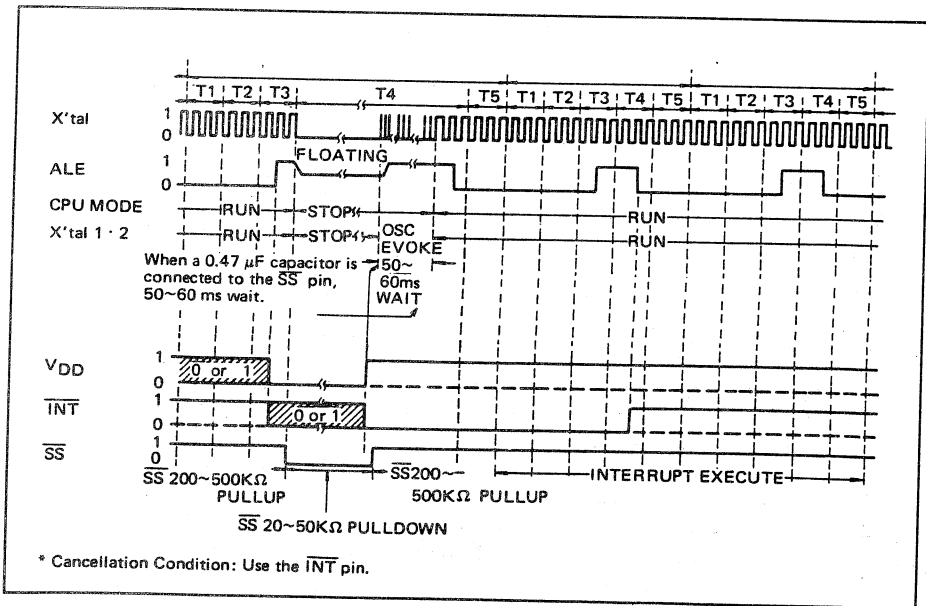
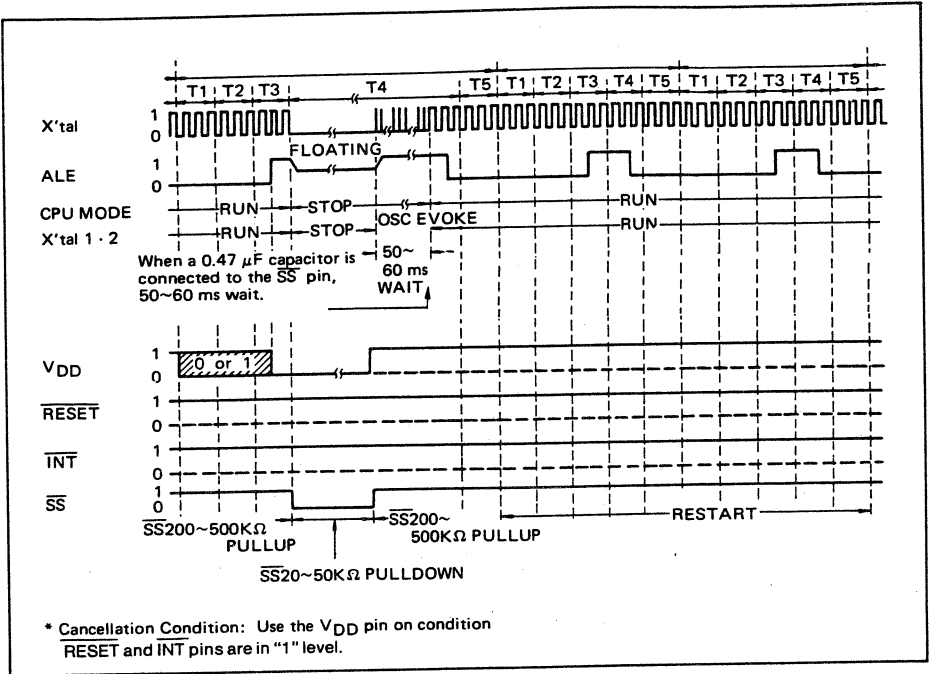

Fig. 4-6 Hardware Power-Down Mode Timing Chart
Fig. 4-7 Hardware Power-Down Mode Timing Chart
However, if the power-down mode is started during an interrupt processing routine, execution will be continued on the next instruction after the present instruction. The timing chart is outlined in Fig. 4-6.
(3) Use of the \overline{INT} pin during external interrupt disabled mode (i.e. following execution of DISI instruction or hardware reset)
- The clock generator is activated and the CPU started up when a "1" level is applied to the V_{DD} pin while a "0" level is applied to the \overline{INT} pin. If this "0" level is maintained until at least 2 ALE output signals occur, execution is continued on the next instruction after the present instruction. The timing chart is outlined in Fig. 4-6.
(4) Use of V_{DD} pin only
- The clock generator is activated and the CPU started up when a "1" level is applied to the V_{DD} pin while a "1" level is also applied to both the RESET and \overline{INT} pins. In this case, execution is resumed from the stopped position. The timing chart is outlined in Fig. 4-7.